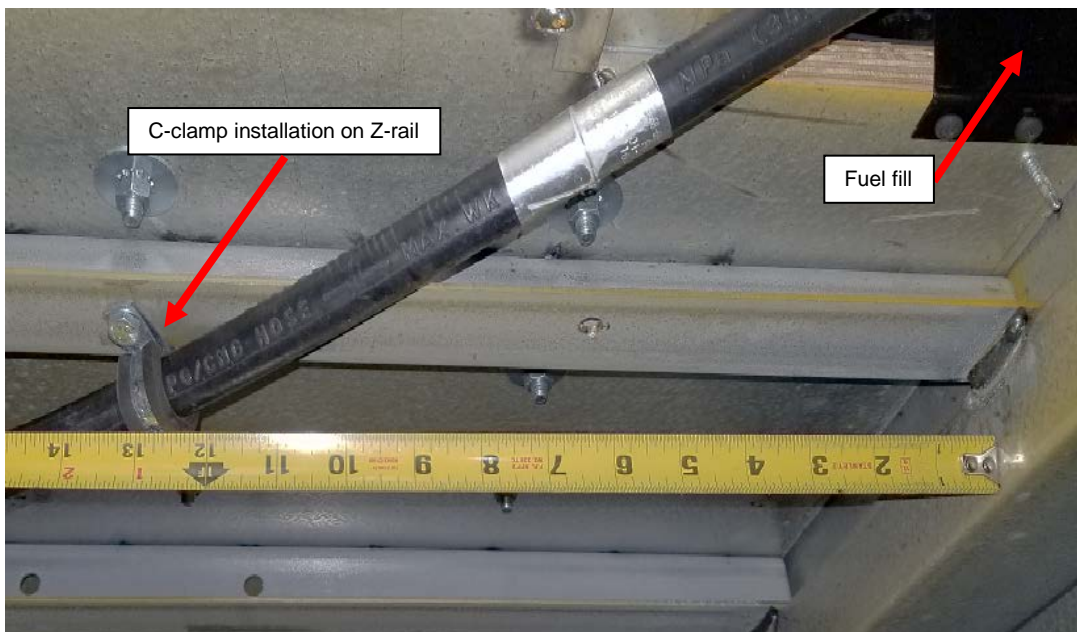

Figure 7: C-clamp Mounted on Floor Joist
12. Looking back from the fuel filler, mount the last C-clamp as shown in **Figure 7**. Again, ensure the fuel line will not contact anything sharp or that could cause wear to the line during vehicle movement.